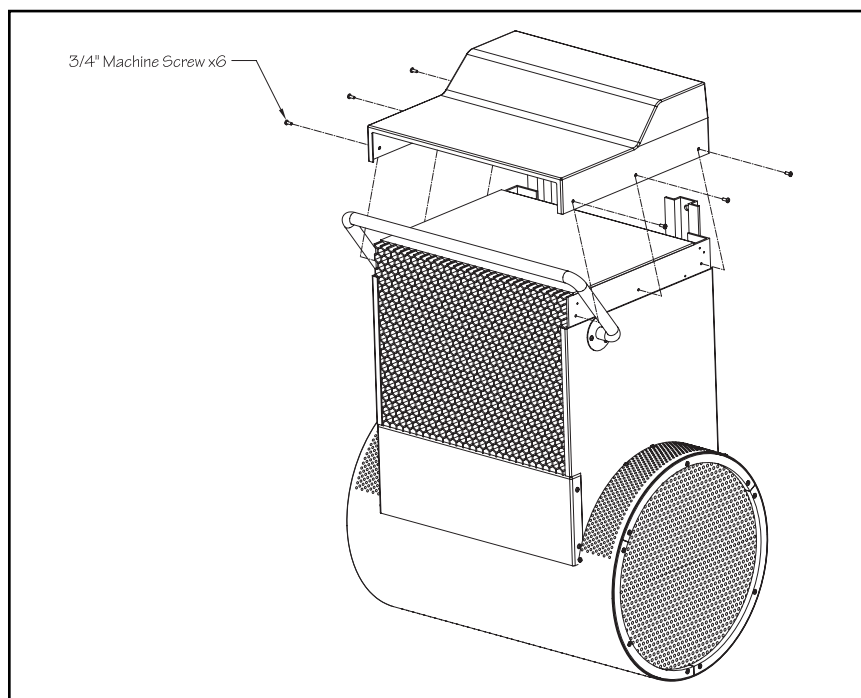

Fig. 6.12
- 6.14 Once the Fastlane Pro is installed in the pool, place the housing lid onto the housing and use the provided screws to attach. There will be three screws per side, for a total of six (Fig 6.12).
9.6 Place the Fastlane Pro lid onto the top of the Fastlane Pro and use the six 3/4" (19mm) stainless steel screws that were provided (3 on each side) (See Fig 6.12).